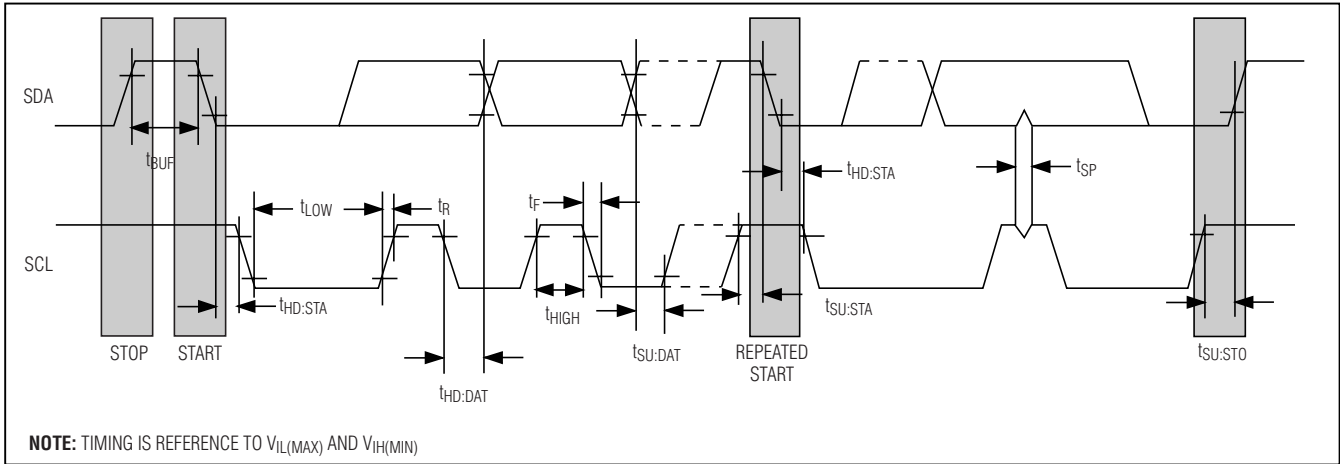

Figure 5. I2C Timing Diagram
**Bit Write:** Transitions of SDA must occur during the low state of SCL. The data on SDA must remain valid and unchanged during the entire high pulse of SCL (see Figure 5) plus the setup and hold-time requirements. Data is shifted into the device during the rising edge of the SCL.
time (see Figure 5) before the next rising edge of SCL during a bit read. The device shifts out each bit of data on SDA at the falling edge of the previous SCL pulse and the data bit is valid at the rising edge of the current SCL pulse. Remember that the master generates all SCL clock pulses, including when it is reading bits from the slave.
**Acknowledgement (ACK and NACK):** An Acknowledgement (ACK) or Not Acknowledge (NACK) is always the 9th bit transmitted during a byte transfer. The device receiving data (the master during a read or the slave during a write operation) performs an ACK by transmitting a zero during the 9th bit. A device performs a NACK by transmitting a one during the 9th bit. Timing (Figure 5) for the ACK and NACK is identical to all other bit writes. An ACK is the acknowledgment that the device is properly receiving data. A NACK is used to terminate a read sequence or as an indication that the device is not receiving data.